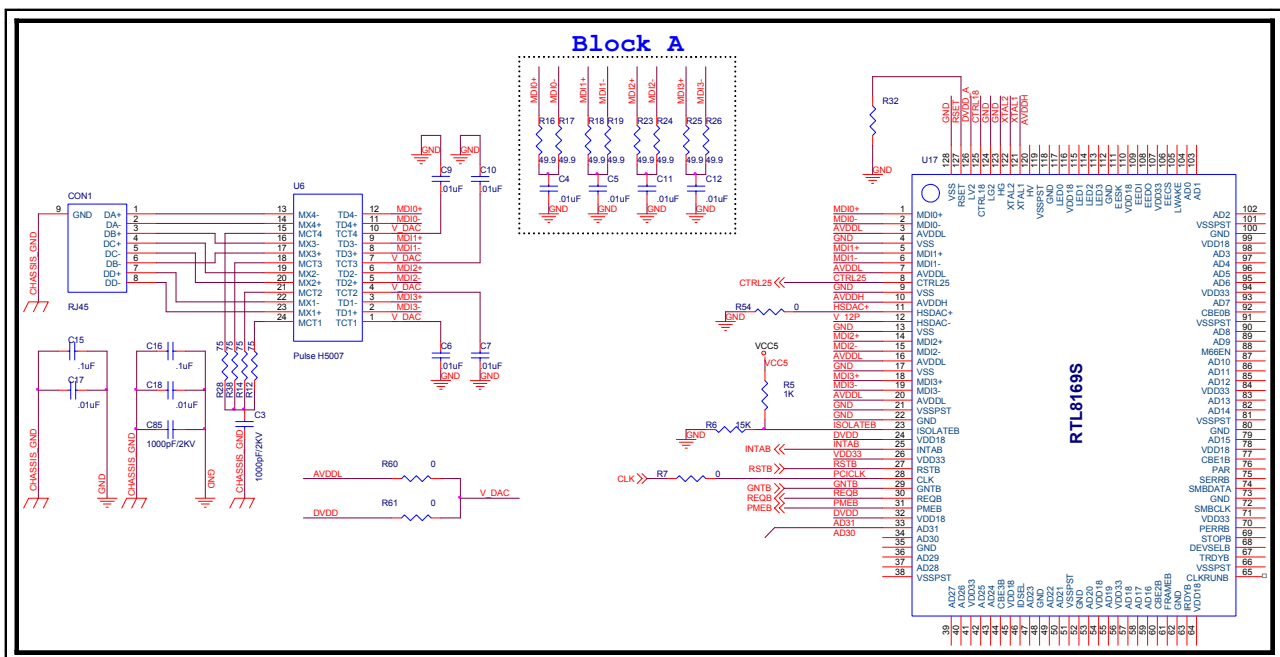

Figure 1. Termination Resistors & Capacitors
- The termination resistors and capacitors (Figure 1, Block A) should be placed close to the RTL8110S/RTL8169S. Also, these resistors and capacitors should be chosen carefully for impedance matching.